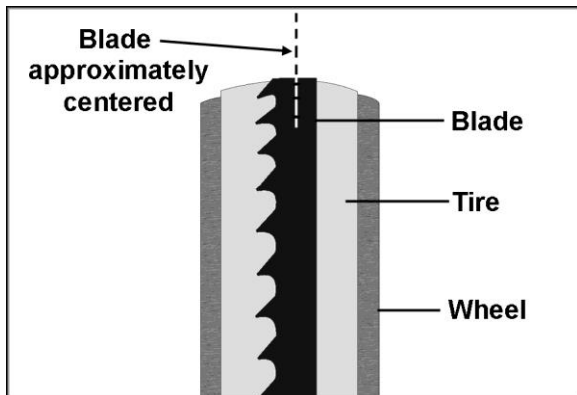

Figure 5-9
6. Rotate wheel by hand, observing position of blade through tracking window. The blade should ride approximately at center of tire (Figure 5-9).